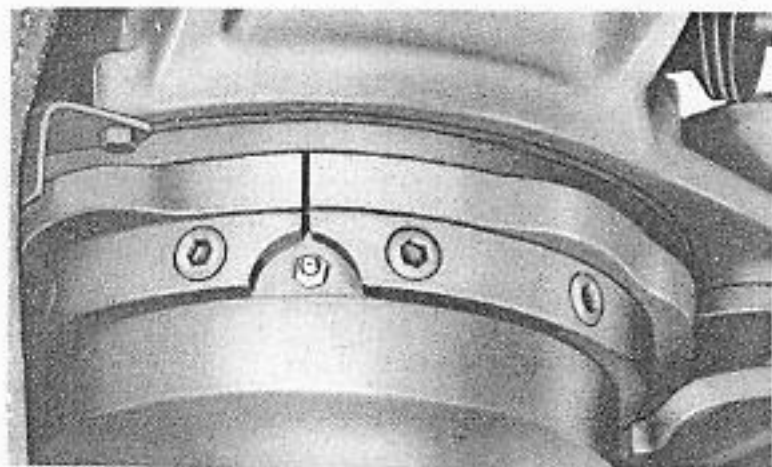

Figure 29. Pressure Oiler Between Cams Insures Correct Assembly.
9. Cam Assembly. Replace the finished cams on the stand over the dowels and tighten the screws securely. The cams are notched at one end only, to clear the pressure oiler, which insures correct assembly, as shown in Fig. 29. Replace the roller (482484), the roller shaft (482482), the shaft retainer (482483), and the retainer screw (482516). It will be noted that on some gun mounts the several retainers are secured by a plain screw and a lock washer instead of by the self-locking screw (482516). Lubricate the roller and shaft with grease OS-1350 before installing them. Align the cam lever and the clevis, and install the cam-lever-to-clevis pin (482476), the retainer (482483), and the retainer screw (482516). Tighten the cam-lever retainer screw (482520) if it was loosened when the scriber was installed.